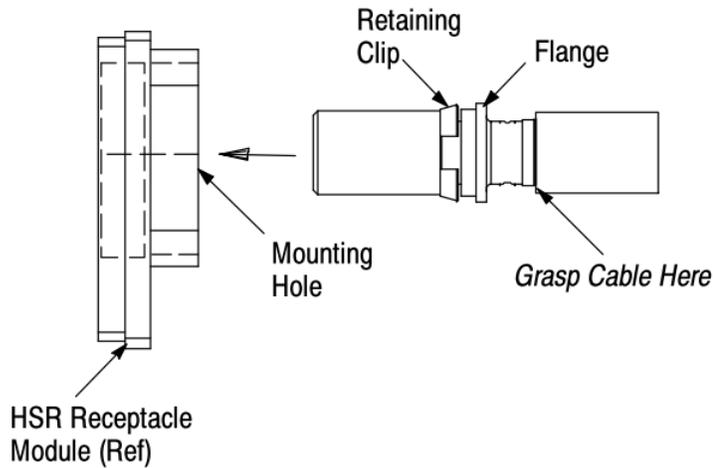

Figure 4: Module Integration.
6. Grasp the cable at the back of the rear shell and slowly push the cable plug into the mounting hole of the receptacle module until the retaining clip snaps into place. Refer to Figure 4.